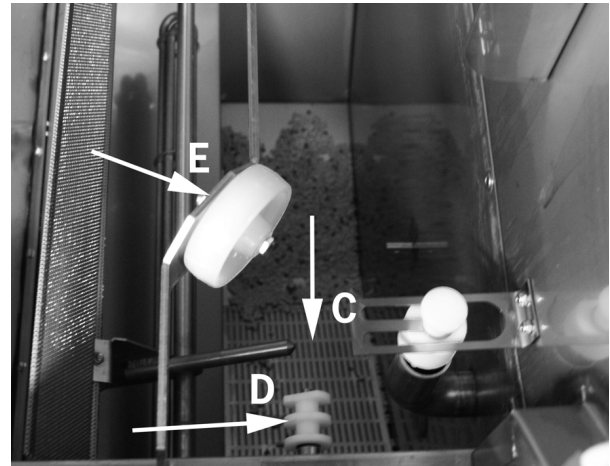

Figure 20: Clean the drain sieve and the level sensor
7. Clean and rinse the drain sieve (C) in the bottom of the wash tank. It can be unscrewed to help with cleaning (see Figure 20: Clean the drain sieve and the level sensor)
8. Wipe the level sensor (D) (Figure 20 Clean the drain sieve and the level sensor).
9. Check that all 4 support wheels (E) for the basket wheel are turning smoothly.